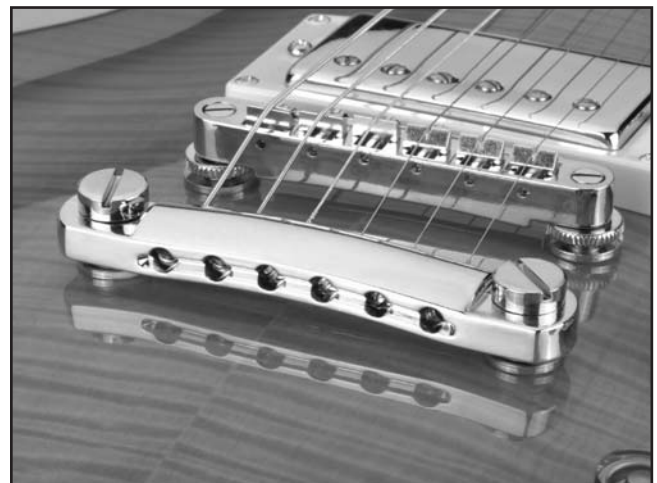

Figure 27. Adjusting the tailstop.
4. Check the angle of the strings between the bridge and the tailstop shown in **Figure 27**.